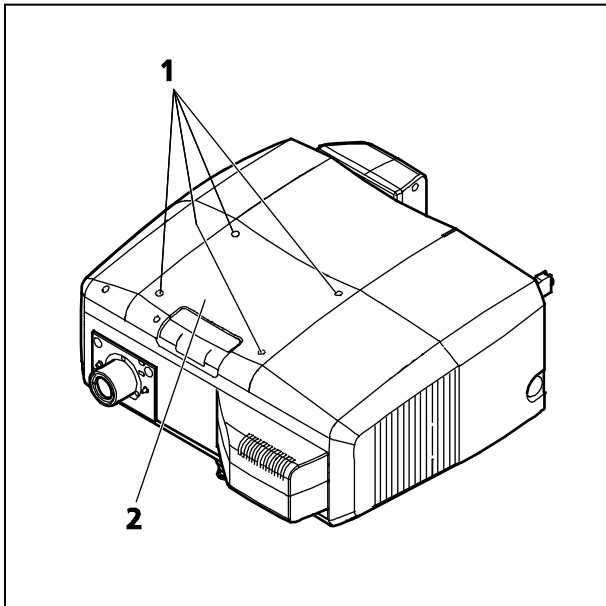

Fig. 3 Removing the cover
- Loosen the four fastening screws (Fig. 3/1).
- Remove the cover (Fig. 3/2) of the scanning module.